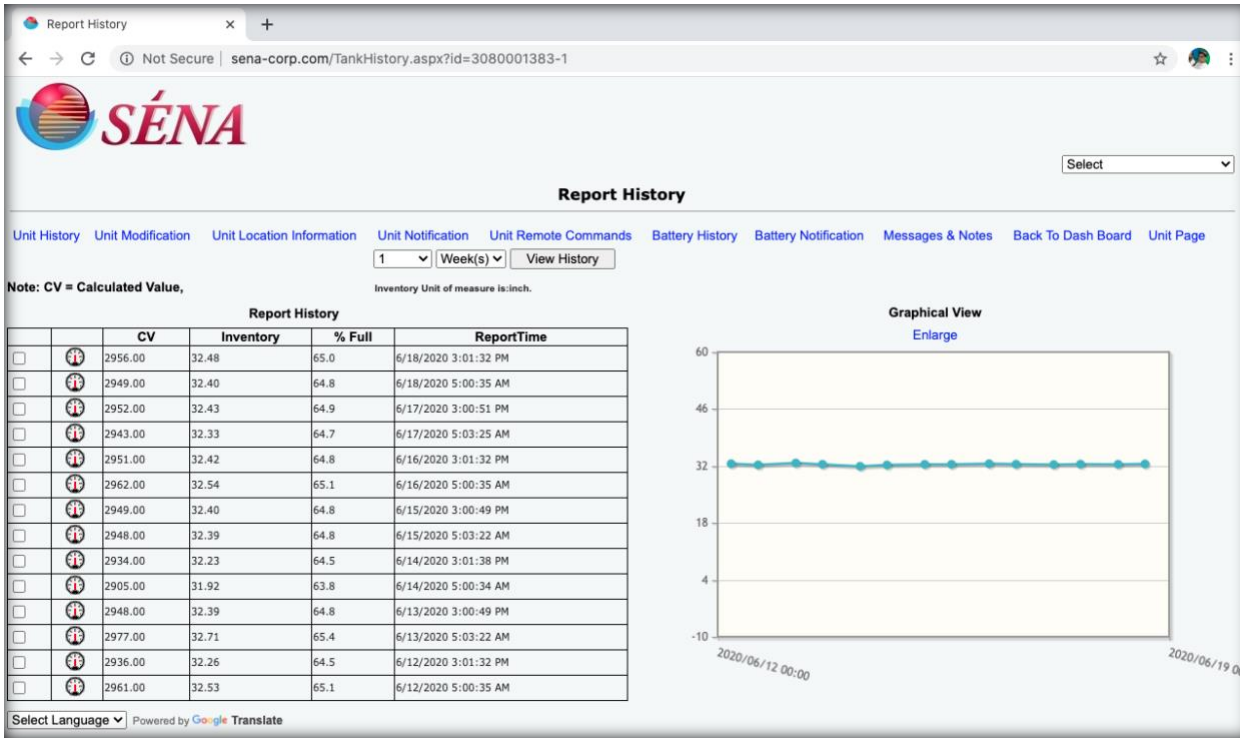

Figure 8
- 9) For check Report history click on hyper link “Unit History”. You will navigate to Unit History Page. Figure 8.